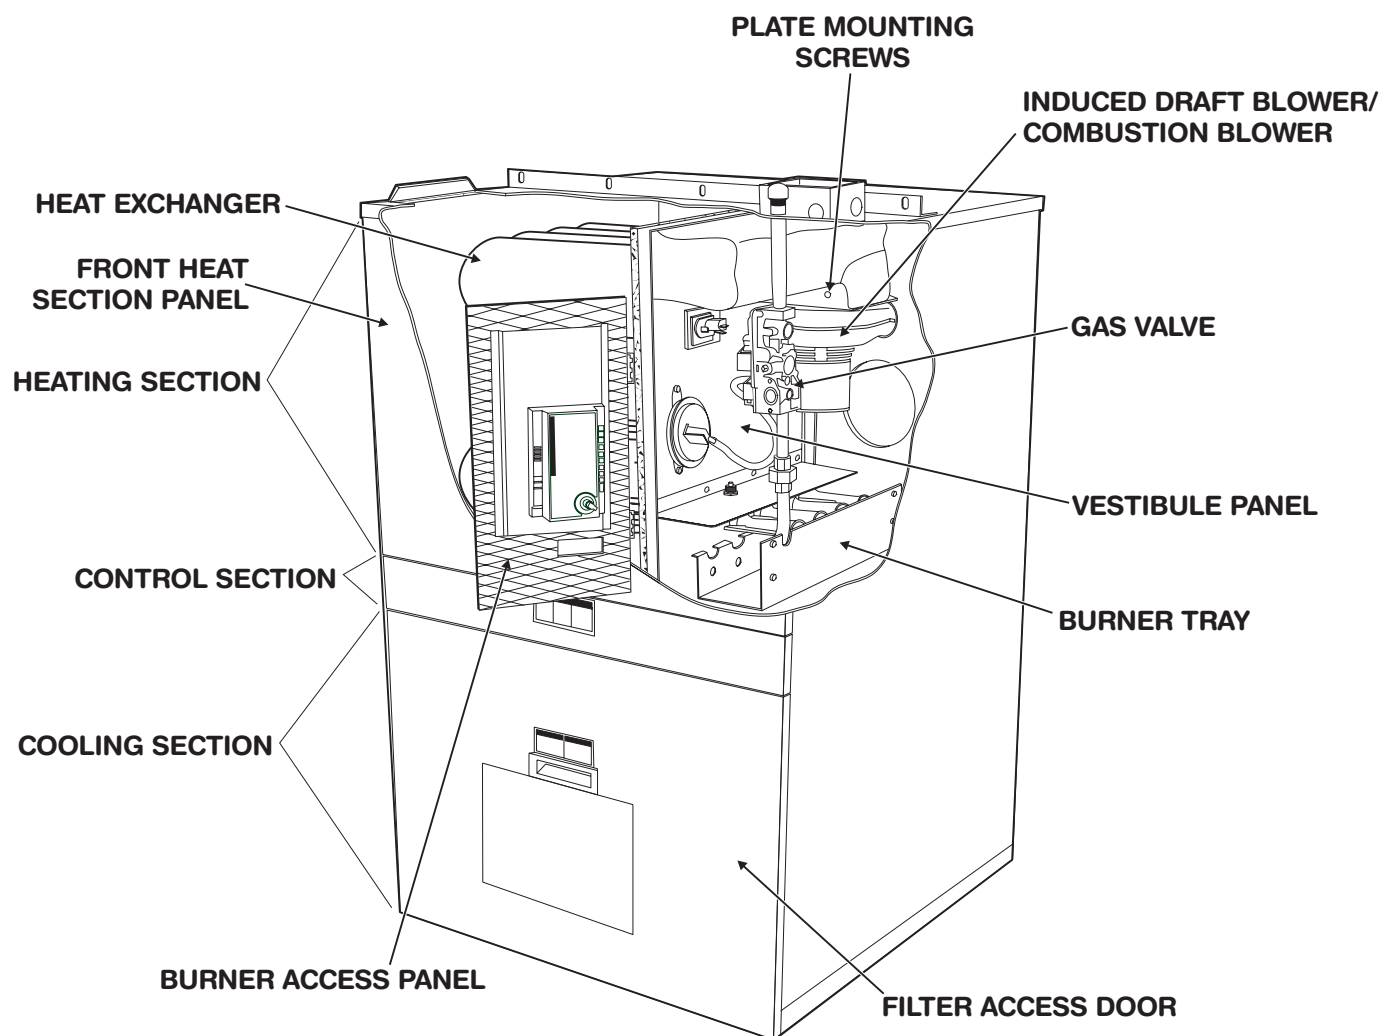

Figure 3-1
The heat exchanger may be removed from the unit through the front side. Refer to the following directions and Figure 3-1.
Refer to the following directions and Figure 3-1.
The cooling chassis may be removed from behind the filter access door. Refer to the following directions and Figures 3-1 to 3-4.
3. Remove the filter access door (Figure 3-1).